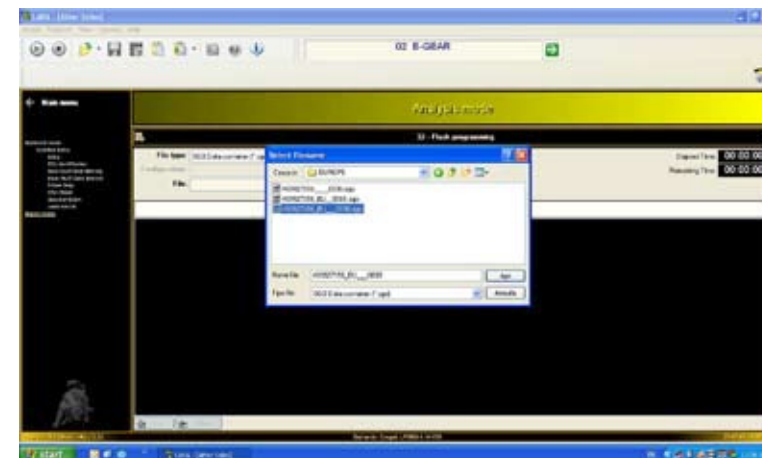

Fig.121
7. Select the software (Europe or USA) on which you wish to reflash the vehicle (**Fig.121**).